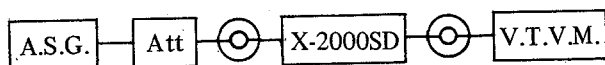

Fig. 4
- a) As shown in Fig. 4, connect an Audio Signal Generator and Attenuator the Line Input. Connect a high sensitivity V.T.V.M. to the Line Output.